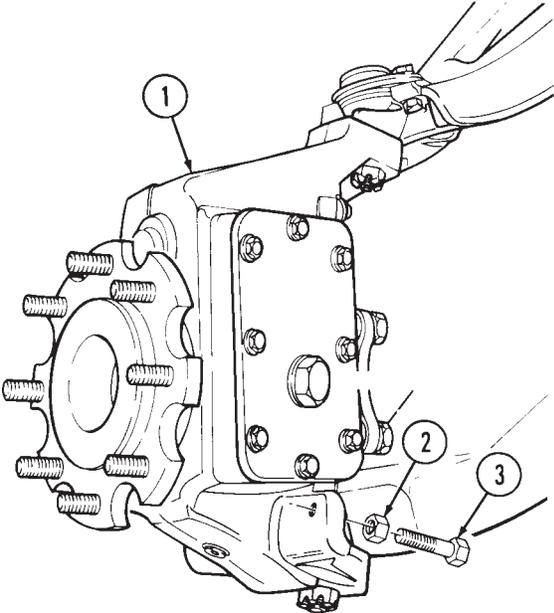

Figure 7-10.
(Figure 7-10 through 7-13)
1. Loosen jamnut (2) and remove steering stop capscrew (3) and jamnut (2) from geared hub (1). See Figure 7-10.
2. Remove jamnut (2) from capscrew (3).